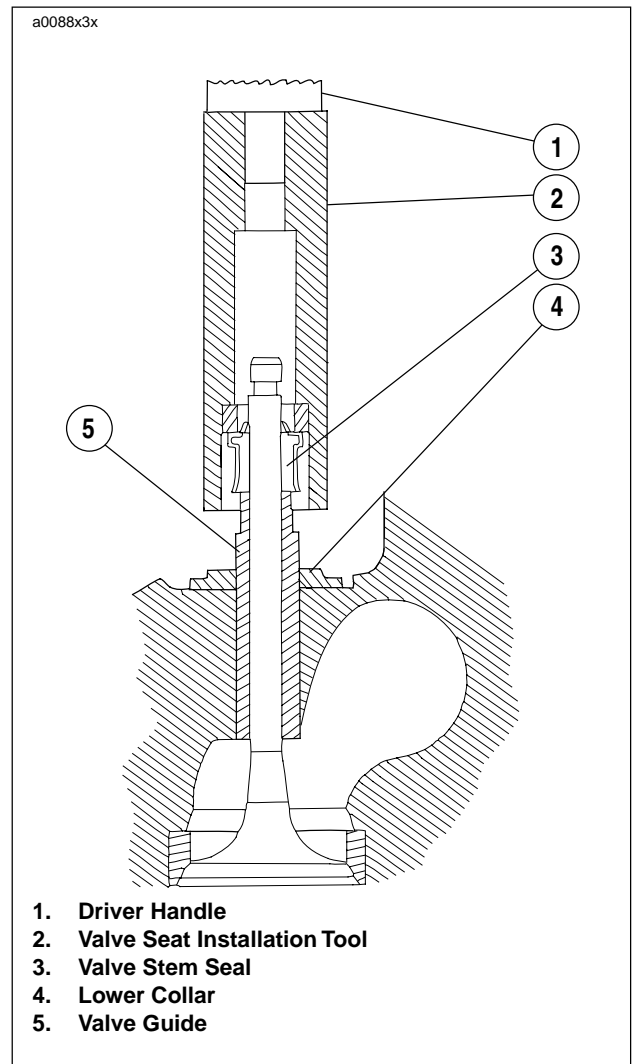

Figure 3-61. Valve Seal Installation
5. See Figure 3-61. Insert valve into valve guide and install lower collar.
7. See Figure 3-61. Tap the valve stem seal onto the valve guide using the VALVE SEAL INSTALLATION TOOL (Part No. HD-34643A) and DRIVER HANDLE (Part No. HD-34740). The seal is completely installed when the tool touches the lower collar.